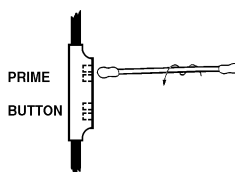

Figure 14 - Cleaning Sockets
- 1) Dip pipe cleaner folded in half or cotton swab in Lime-A-Way® Kitchen/Bathroom Cleaner and twist into the socket, (see Figure 14).